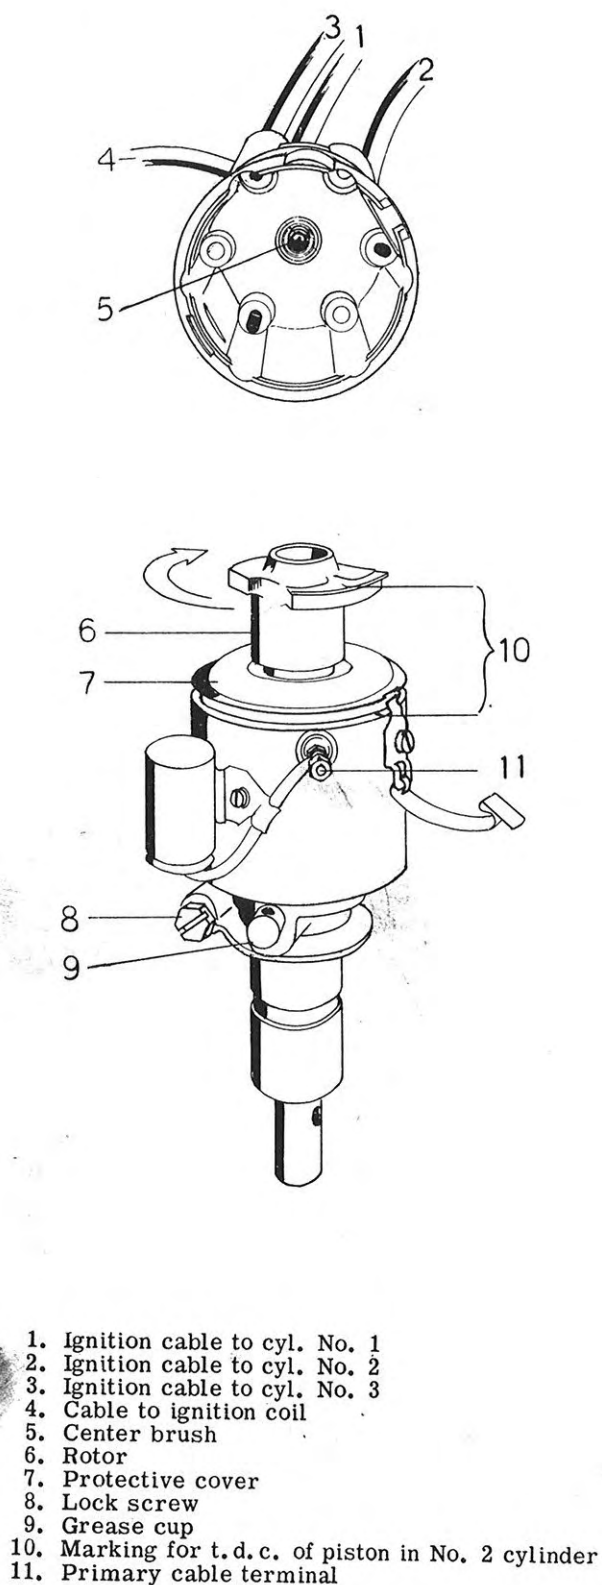

Fig. 18. Distributor
3. Remove the rotor 6, Fig. 18, which is secured by a stop screw.
9. Fit distributor so that the mark on the rotor is approx. at the mark 10 on edge of the distributor body, see Fig. 18.
9. Check that the mark on the rotor is approx. at the mark 10, Fig. 18, on edge of the distributor body.
10. Loosen clamp screw 8, Fig. 18, under distributor.
14. Check that marks 10, Fig. 18, coincide and lock the distributor with clamp screw 8 in the exact position where the test lamp either goes out or lights up.
19. Screw in spark plugs and connect ignition cables. Note the location of the cables in the distributor cover, see Fig. 18.